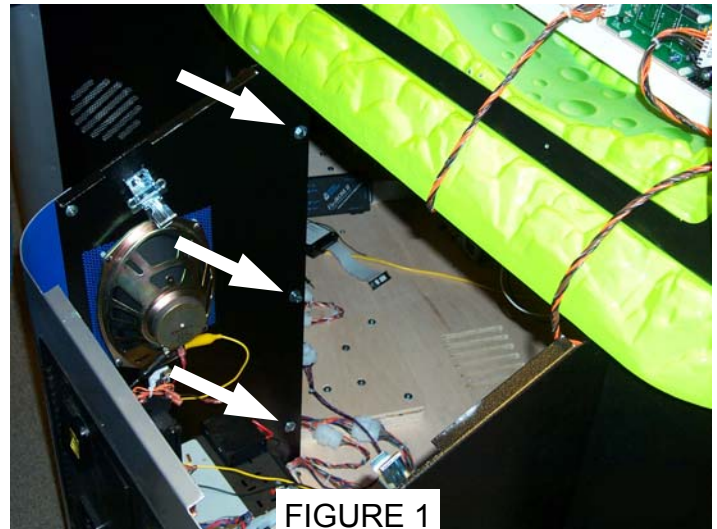

FIGURE 1
3. The game normally comes with the control panels/podiums inside the lower cabinet. A 7/16 wrench or socket is needed to attach the podiums to the lower cabinet. (See figure 1)